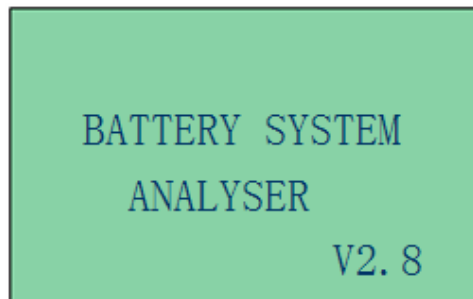

Figure 39
1. Attach the clips onto the battery terminal posts and the analyser will power up and lights up the LCD display screen as shown (Fig.39).